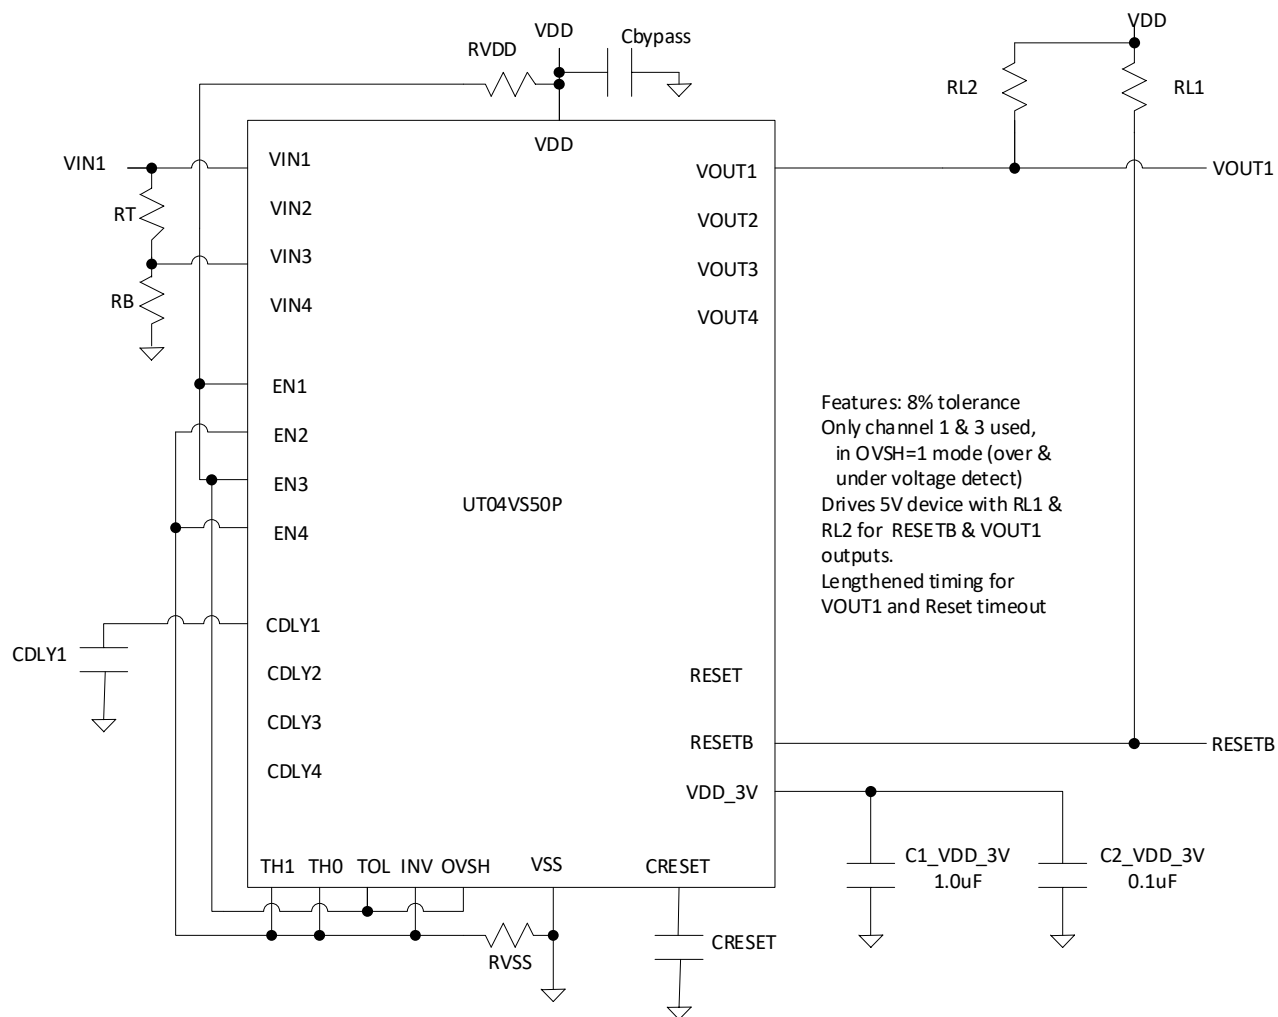
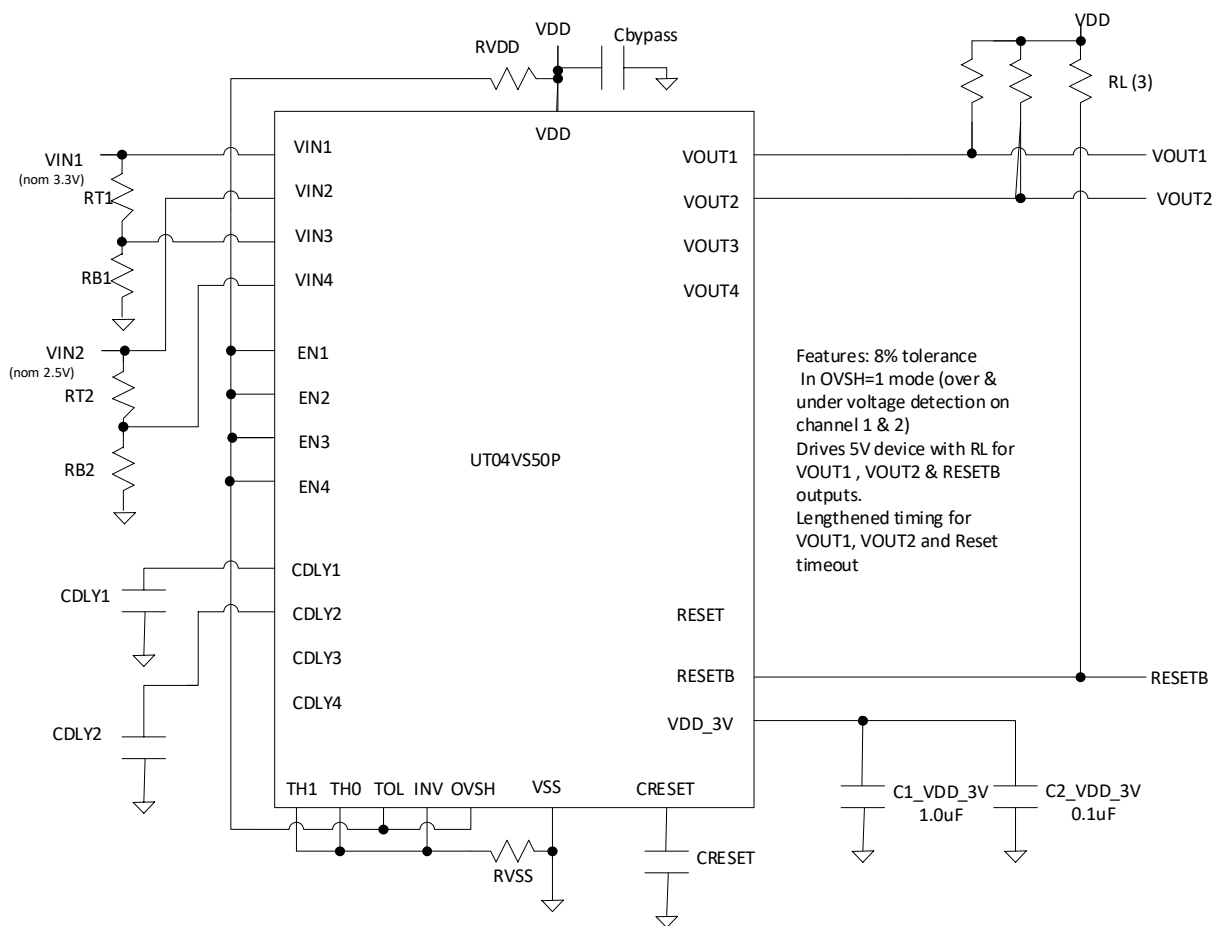

Figure 8. Extended use application showing OVSH connection for channel 1
Figure 9. Extended use application showing OVSH connection for channel 1 and 2
- 3) For OVSH=1, V_{TH_OVRV} is the threshold which is set with external resistors to either the V_{IN3} or V_{IN4} input to monitor an over-voltage condition in conjunction with the under-voltage monitor by VIN1 or VIN2, respectively, as shown in Figure 8 and Figure 9.
Shown in Figure 8 is an extended application showing the use of Cdly and Creset capacitors. OVSH is set to logic 1 to highlight the under- and over-voltage detection mode connections. Thus, a resistor voltage divider on channel 3 is connected from the channel 1 source.
Shown in Figure 9 is an extended application showing the use of Cdly and Creset capacitors. OVSH is set to logic 1 to highlight the under- and over-detection mode connections on channel 1 and channel 2. Thus an resistor voltage dividers on channel 3 and 4 are connected from the channel 1 and 2 source, respectively.